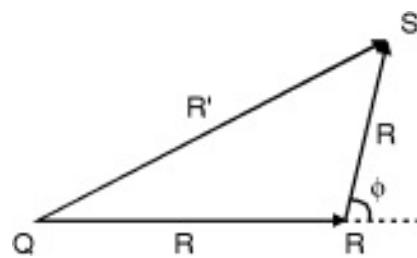

Fig. 3.5.2
- The resultant amplitude at P can be obtained from Fig. 3.5.2.
- From Fig. 3.5.2, we can write,